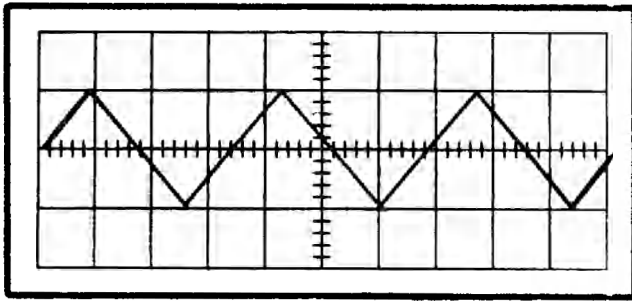

Fig. 7-5. Waveform discussed in step 20-b. Shows display when calibrating C5512F or C5562F.
b. Switch the O Unit VOLTS/CM control to .5, and the Z_f control to .0001 μ f. Adjust C5512F for A or C5562F for B. See Fig. 7-3, (20A) or (20B). The waveform should be free from overshoot, as shown in Fig. 7-5. Adjust C5512F for A or C5562F for B until the tips (top and bottom) of the waveform are exactly 2 cm in amplitude.